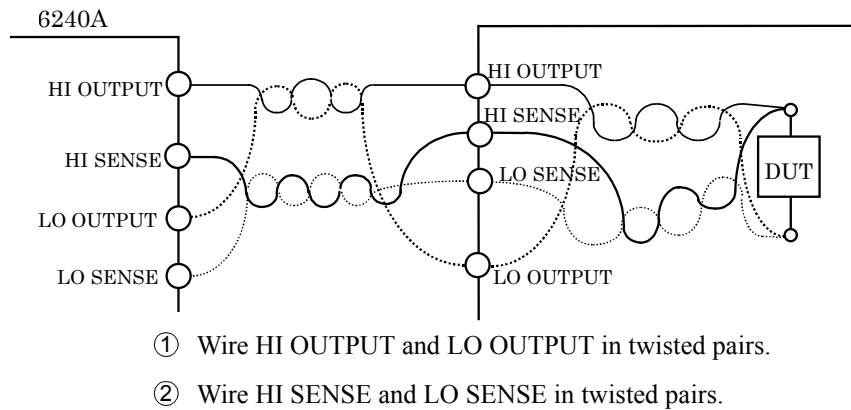

Figure 5-3 Reducing Floating Capacitance and Lead Inductor
3. If the shortest cables stop the oscillation, then connect the 6240A and DUT as shown in Figure 5-3 to reduce the capacitance and inductance of cables and other devices.